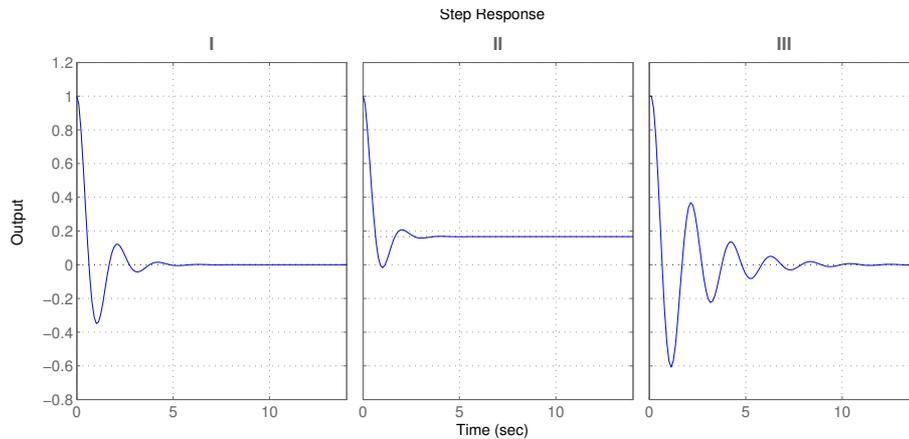

Figure 2.6 Step Load Disturbance Responses for Problem 2.5.
- b. Figure 2.6 shows responses to a step load disturbance,  $d$ , corresponding to the three different control designs  $C_1 - C_3$ . Combine the controllers  $C_1 - C_3$  with the load step responses  $I - III$ .